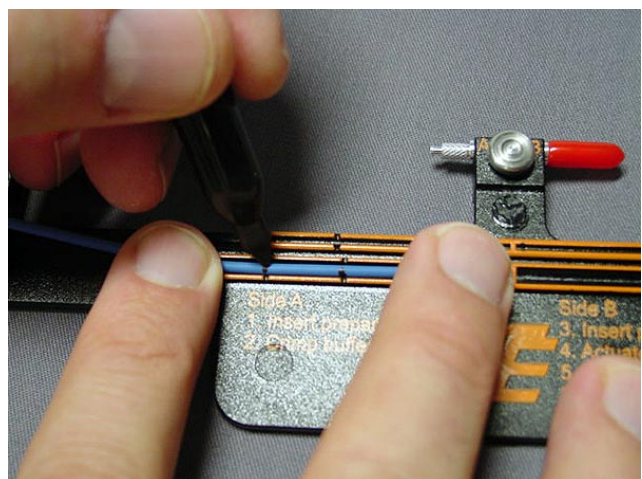

Figure 62
7. Place cable into template and mark at first and second slots as shown in Figure 62. Repeat for second end.